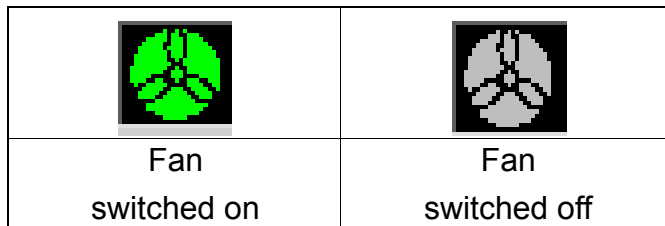

Figure 4-14: Fan
- The next display shows the fan pressure. A fan icon appears next to the numerical value. Its colour indicates whether the fan for this module is currently switched on or off (figure 4-14).